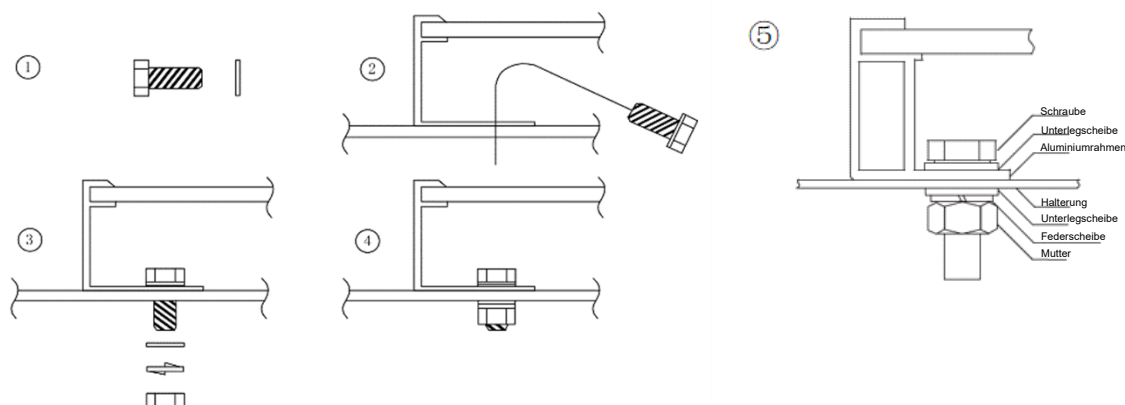

Figure 4
- The method and the specifications of the fixing parts are shown in figure 4 below: